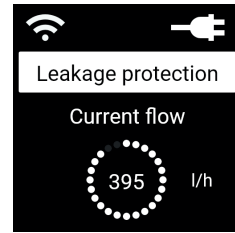

Fig. 8.3
- / the OK-BUTTON opens the main menu (Fig. 8. 4) from the Top Level (Fig. 8.3)